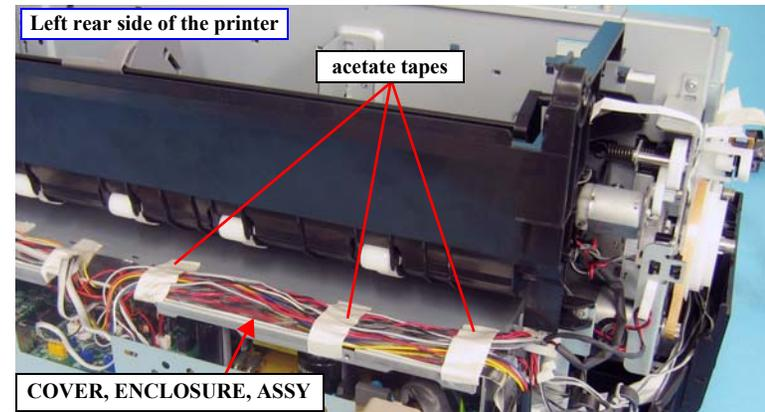

Figure 4-131. Releasing the MOTOR, RELEASE, ASSY. Cables (1)
4. Remove the acetate tapes on the COVER, ENCLOSURE, ASSY. to release the cables of the MOTOR, RELEASE, ASSY. *See Figure 4-131.*
Route the cables of the MOTOR, RELEASE, ASSY. with other cables and secure them with the acetate tapes as shown in *Figure 4-131.*